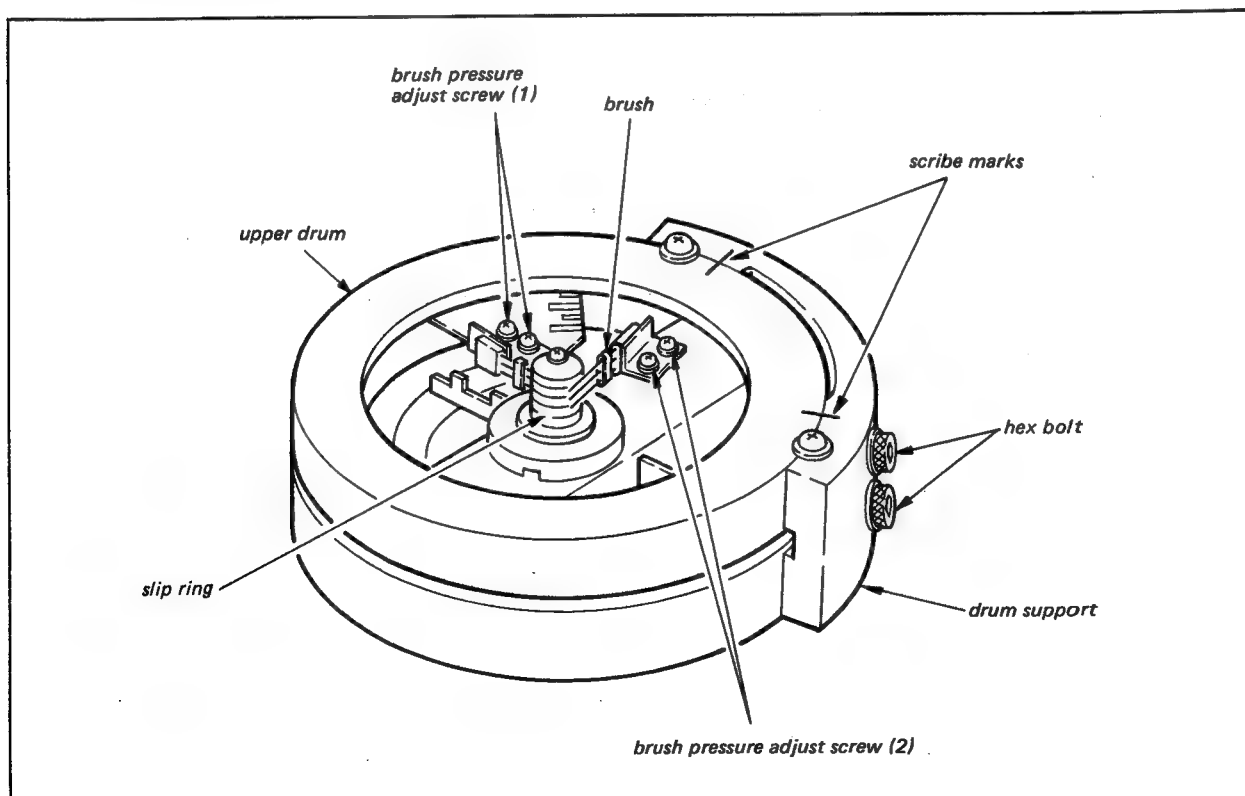
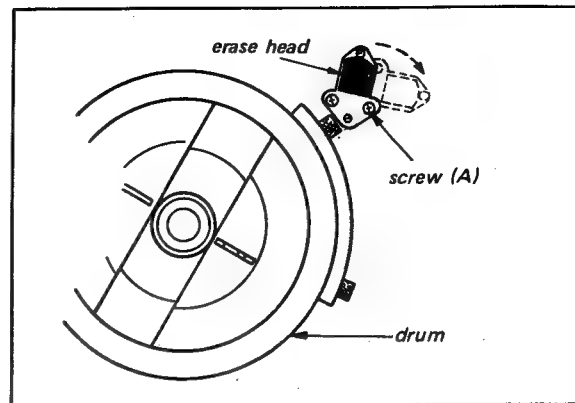
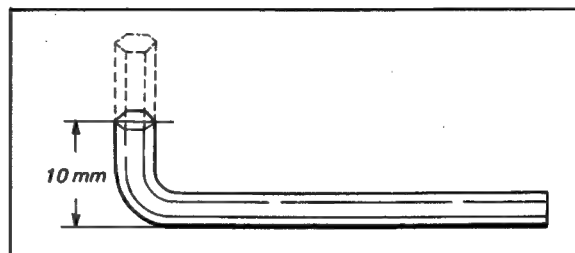

Fig. 7-4
Fig. 7-5
Fig. 7-6 4 mm Allen wrench
3. Loosen the four brush pressure adjusting screws (1) and (2) as shown in Fig. 7-4 and move the brushes away from the slip rings.
4. Put a reference mark on the upper drum using a scribe and straight edge as shown in Fig. 7-4.
5. Remove the upper two Hexagon Socket Head Bolts 5 x 20 and washers as shown in Fig. 7-4 using a special 4 mm Allen wrench as shown in Fig. 7-6 or removing the erase head as shown in Fig. 7-5. Hold the upper drum with one hand so that it does not fall as you withdraw the two screws.